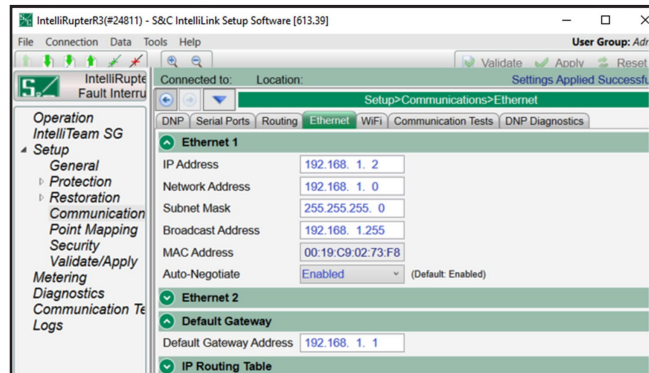

Figure 21. The reconfigured Ethernet interface information.
- STEP 7.** Configure the IntelliRupter fault interrupter control module’s **Ethernet 1** tab: **Ethernet 1 IP Address** setpoint to 192.168.1.2, the **Network Address** setpoint to 192.168.1.0, the **Subnet Mask** setpoint to 255.255.255.0, the **Broadcast Address** setpoint to 192.168.1.255, and the **Default Gateway Address** setpoint to 192.168.1.1. See Figure 21.